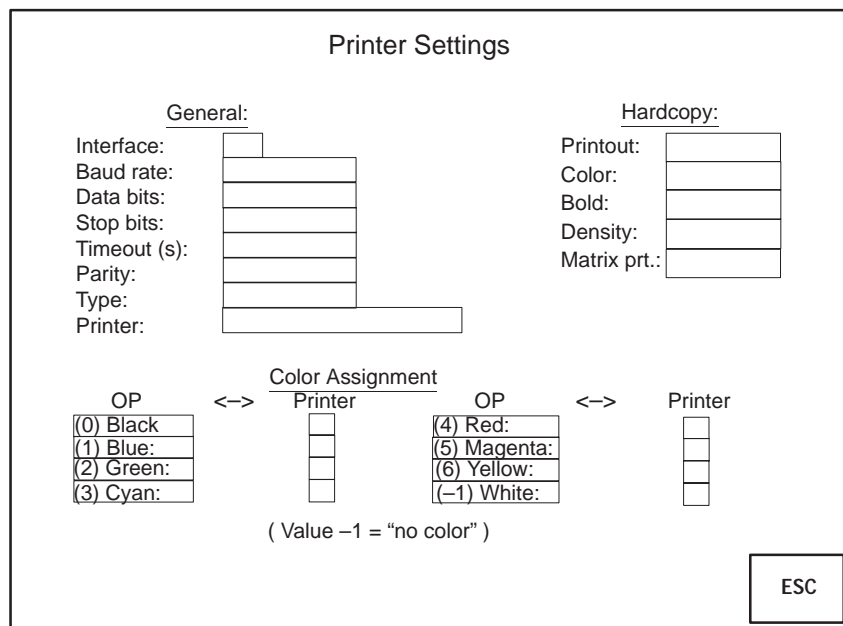

Figure 7-2 Standard screen for printer settings (example OP37)
- with the OP37 on standard screen *Printer Settings* (Figure 7-2).